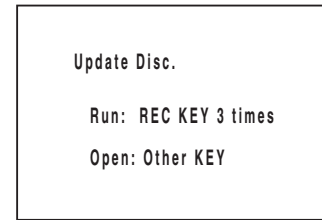

Fig. 3-1-7
- 2) Insert the firmware disc: The screen for verifying update will appear (Fig. 3-1-7).